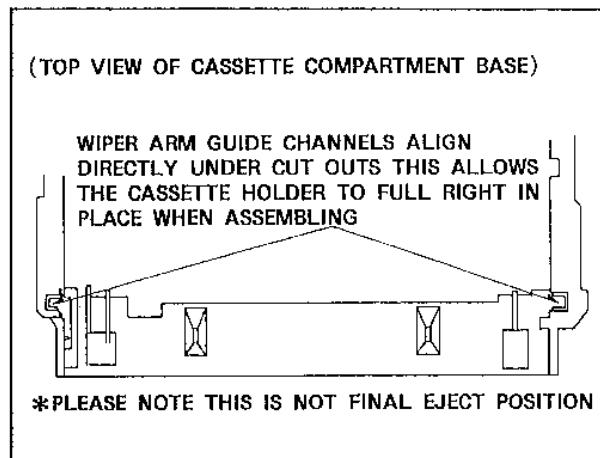

Fig.M51
- Install the Cassette Holder Unit in the Cassette Compartment Base as shown in Fig.M51.